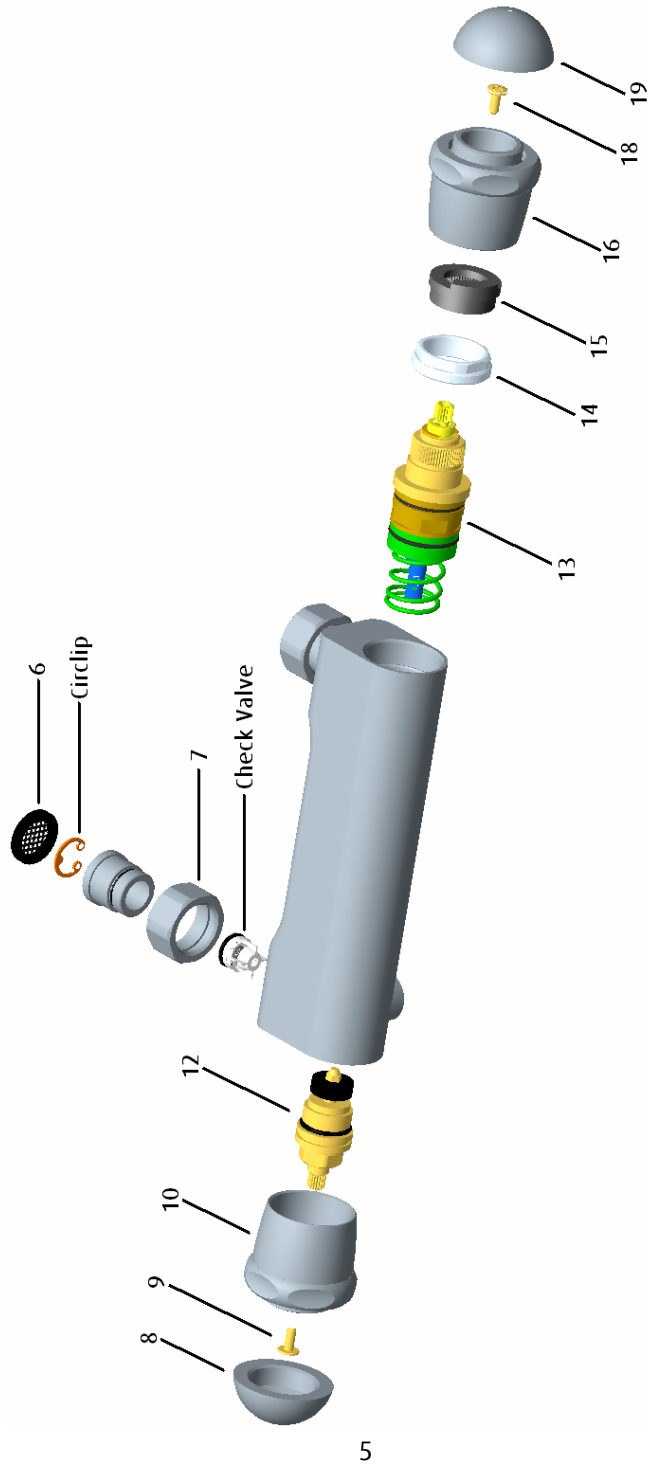

Fig. 1b
4.2.2 Bar Shower Body (See Fig. 1b)
8.3 Cartridge Removal (See Fig. 1b)